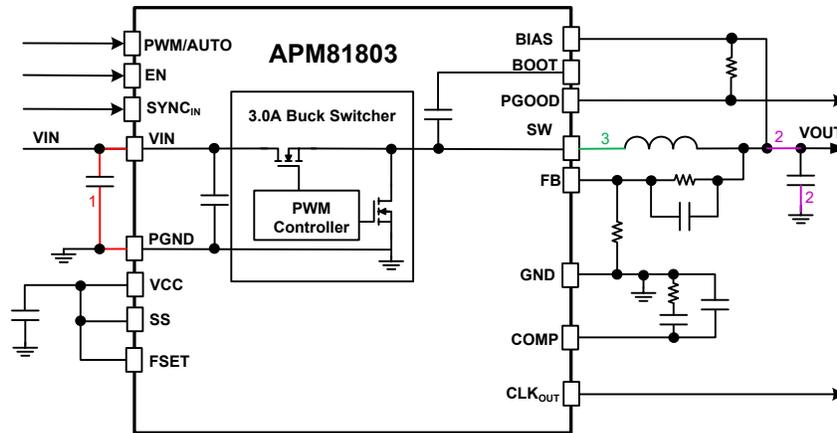

Figure 14: PCB Layout Critical Paths
The APM81803 is designed to minimize electromagnetic (EM) emissions when proper PCB layout techniques are adopted. A good PCB layout is also critical for the APM81803 to provide clean and stable output voltages. Design guidelines for EMI/EMC-aware PCB layout and minimum $R_{\theta JA}$ are presented below. Figure 14 shows a typical application schematic of a synchronous buck regulator IC with critical power paths/loops.
- Place the ceramic input capacitors as close as possible to the VIN pin and PGND pins to make the loop area minimal, and the traces of the input capacitors to VIN pin should be short and wide to minimize the inductance. This critical loop is shown as trace 1 in Figure 14. The bulk/electrolytic input capacitor can be located further away from VIN pin. The input capacitors and APM81803 IC should be on the same side of the board with traces on the same layer.
- Place the output capacitors relatively close to the output inductor (L_O) and the APM81803. Ideally, the output capacitors, output inductor, and the APM81803 should be on the same layer. Connect the output inductor and the output capacitors with a fairly wide trace. The output capacitors must use a ground plane to make a very low-inductance connection to the PCB GND. These critical connections are shown as trace 2 in Figure 14.
- Place the output inductor (L_O) as close as possible to the SW pin with short and wide traces. This critical trace is shown as trace 3 in Figure 14. The voltage at SW node transitions from 0 V to V_{IN} with a high dv/dt rate. This node is the root cause of many noise issues. It is suggested to minimize the SW copper area to minimize the coupling capacitance between SW node and other noise-sensitive nodes; however, the SW node area cannot be too small in order to conduct high current. A ground copper area can be placed underneath the SW node to provide additional shielding.